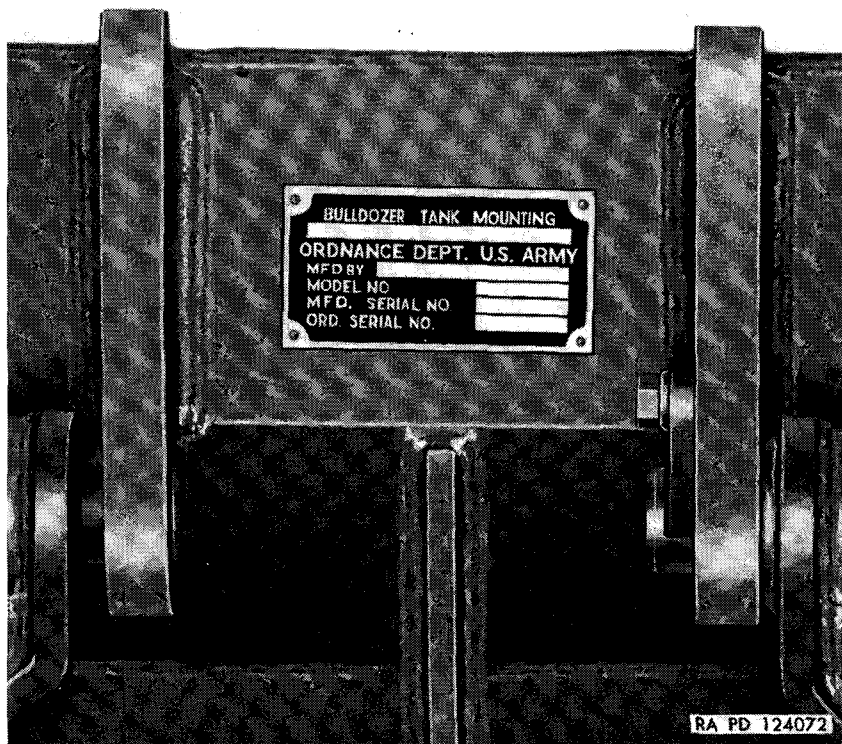

Figure 3. Bulldozer name plate.
a. **BULLDOZER NAME PLATE.** This plate is located on the center of the rear side of the moldboard (fig. 3). It gives the manufacturer's name, model number, and serial number, and the ordnance serial number.